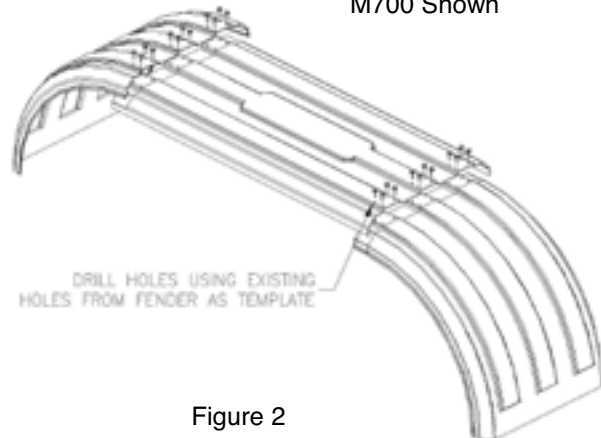

Figure 2
- C. Using the $1/4$ " x $3/4$ " long Phillips truss head bolts, attach the fender sections together. Tighten down the bolts using the supplied lock nuts. **DO NOT OVERTIGHTEN** the bolts. Start from the center and work towards the outside. See Figure 2.